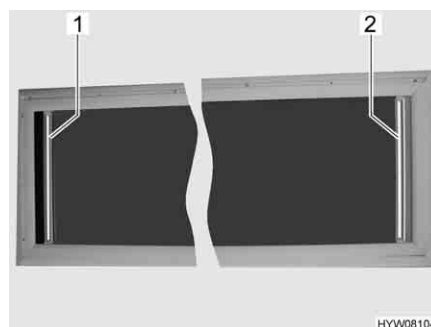

Fig. 108 Hinged sunroof
Closing: ■ Grip the Roman shade (Fig. 108,2) in the centre of the holding bar, pull it out and release it at the required position. The Roman shade will stay in that position.
- Grip the Roman shade (Fig. 108,2) in the centre of the holding bar and slowly push it to its initial position.
- Grip the insect screen in the centre of the holding bar (Fig. 108,1), pull it out and release it at the required position. The insect screen will stay in that position.